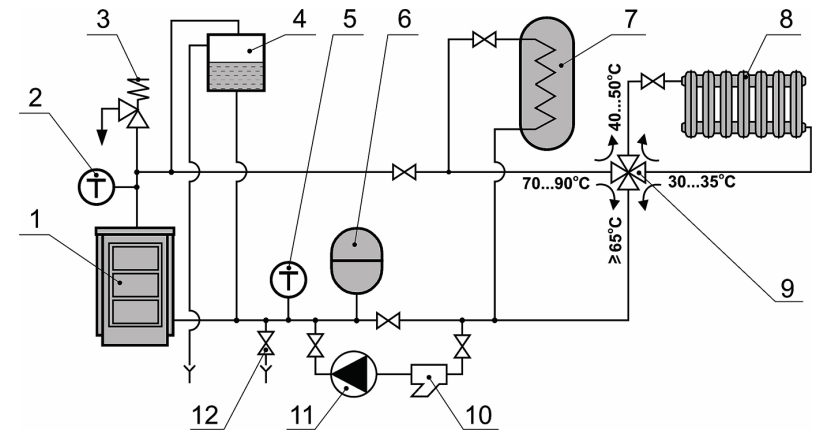

Fig. 3. Recommended connection scheme
4.3. Requirements for connection to heating system (Fig. 3):